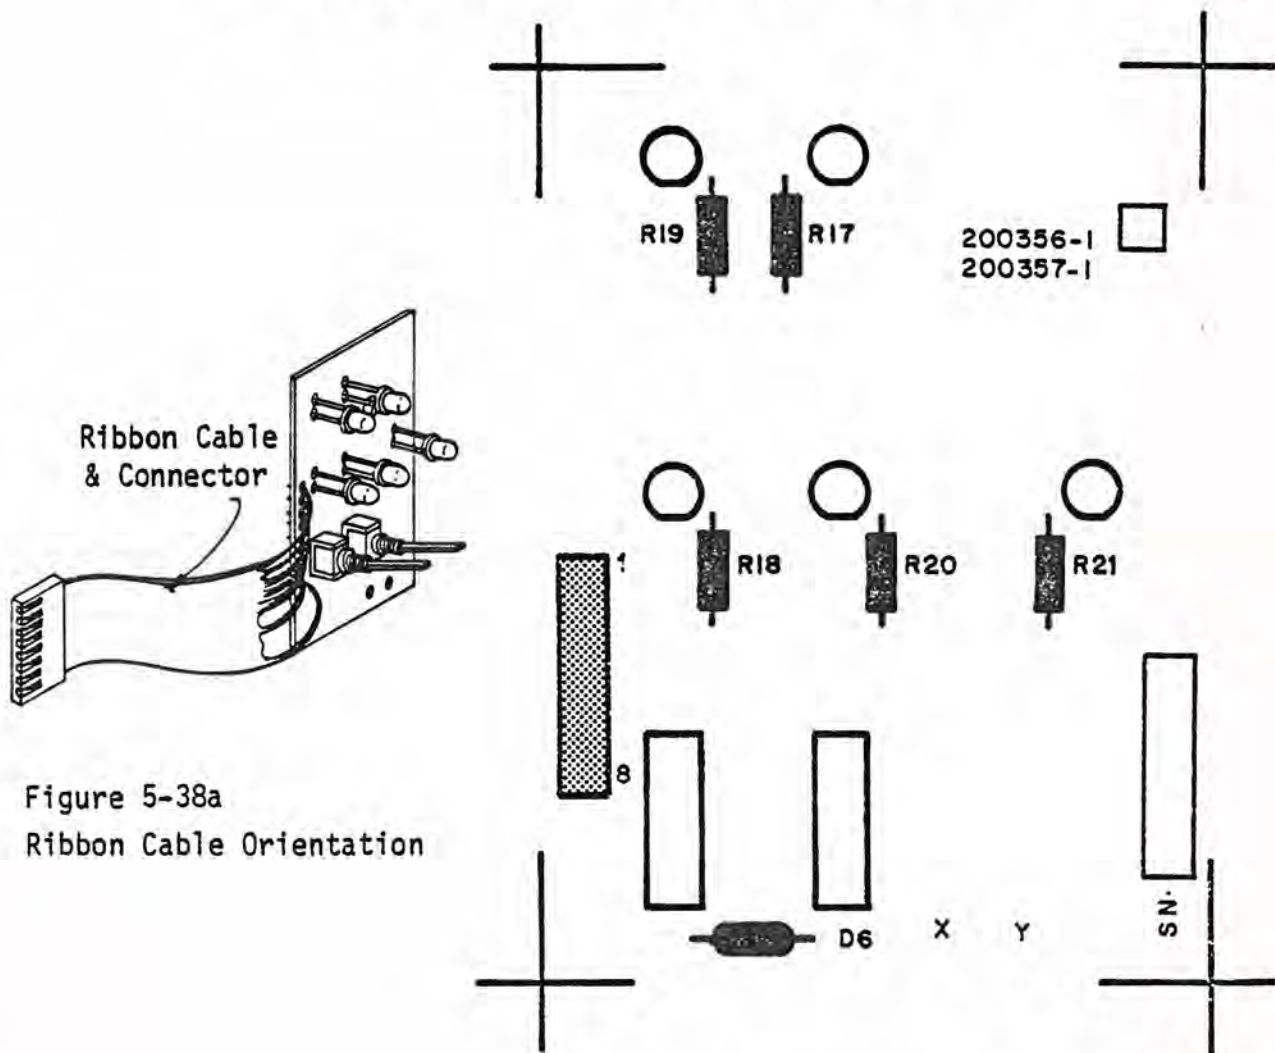

Figure 5-38a
2. Insert a 1/2 inch stripped wire in each hole on the silk-screened side of the board (as indicated in Figure 5-38a and 5-38b). Push the wire in until the insulation touches the board.